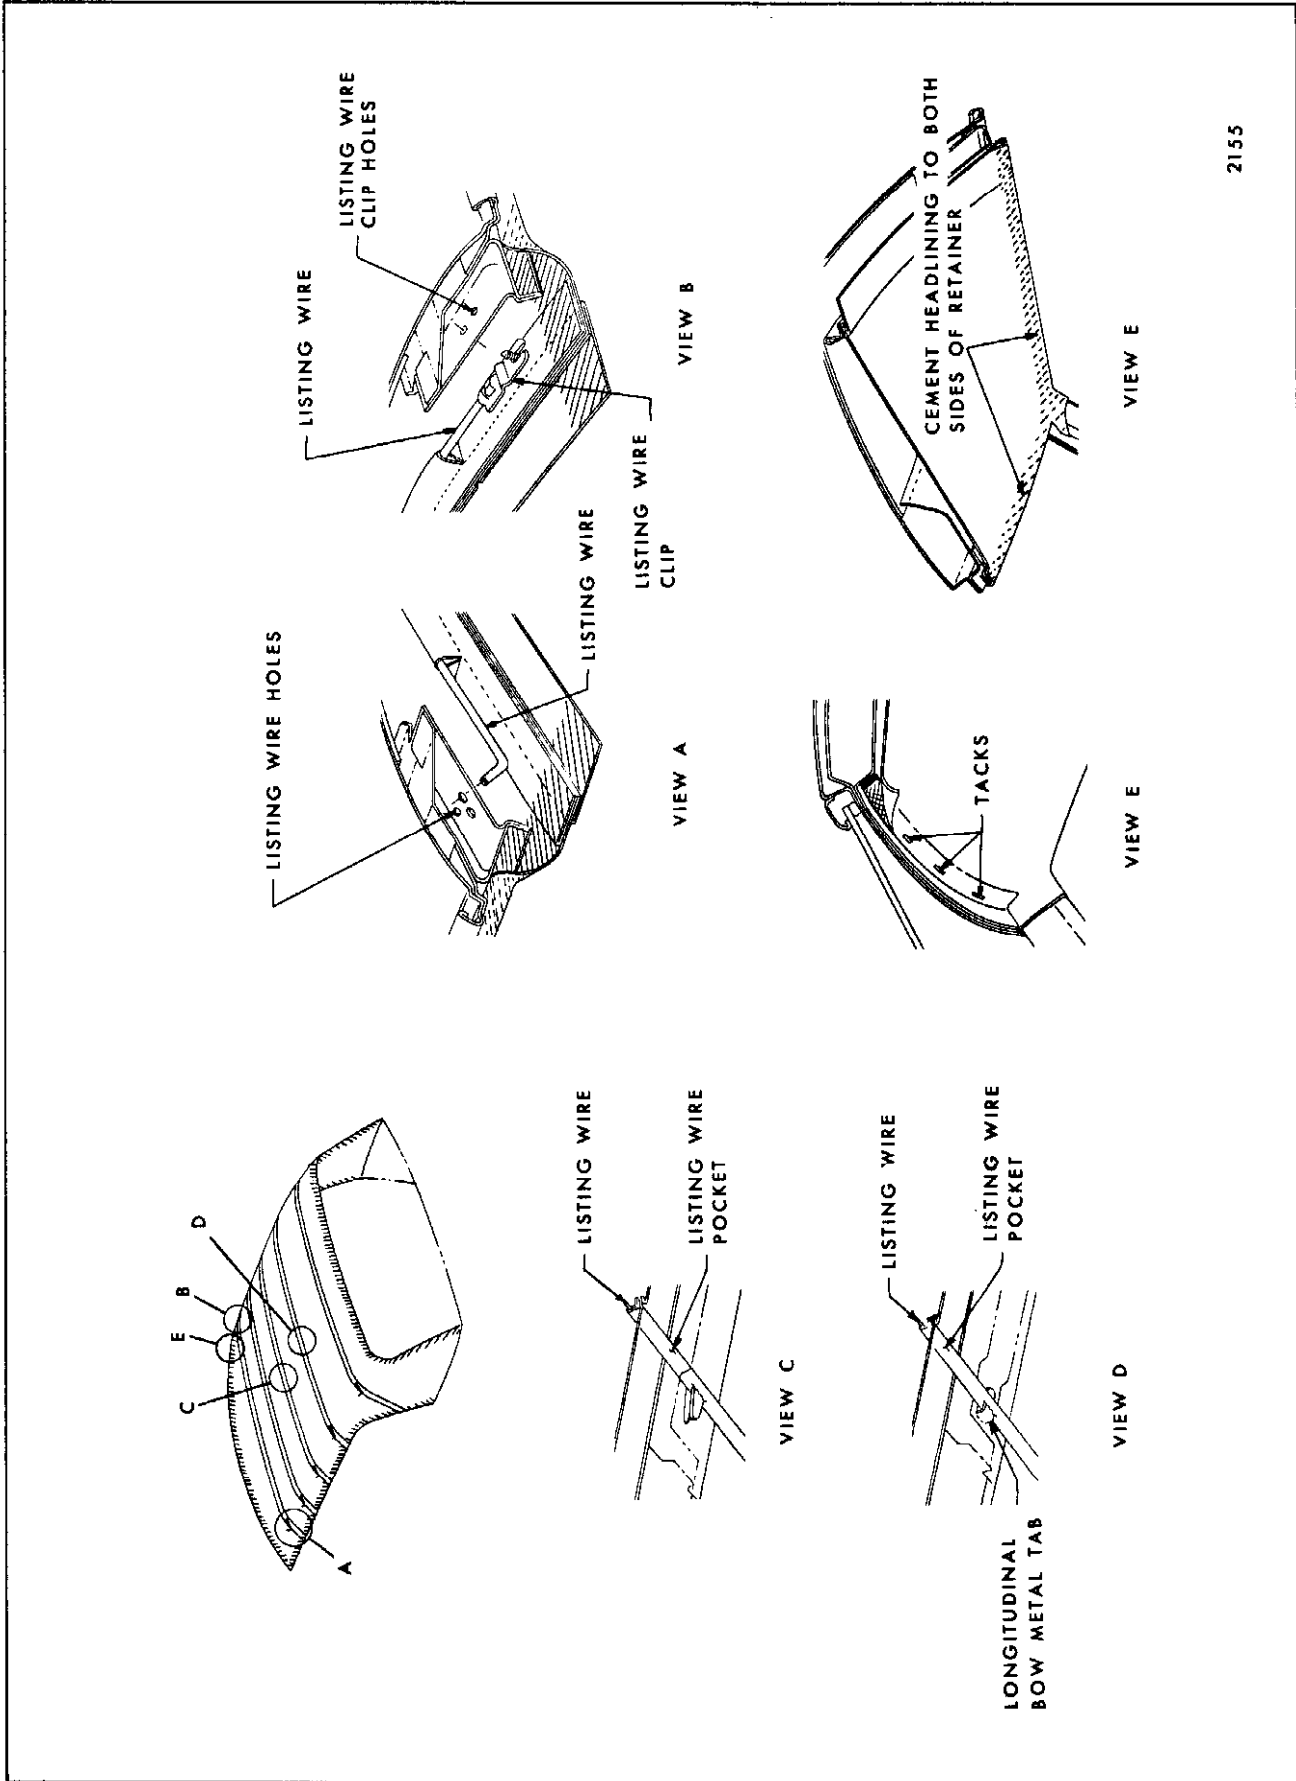
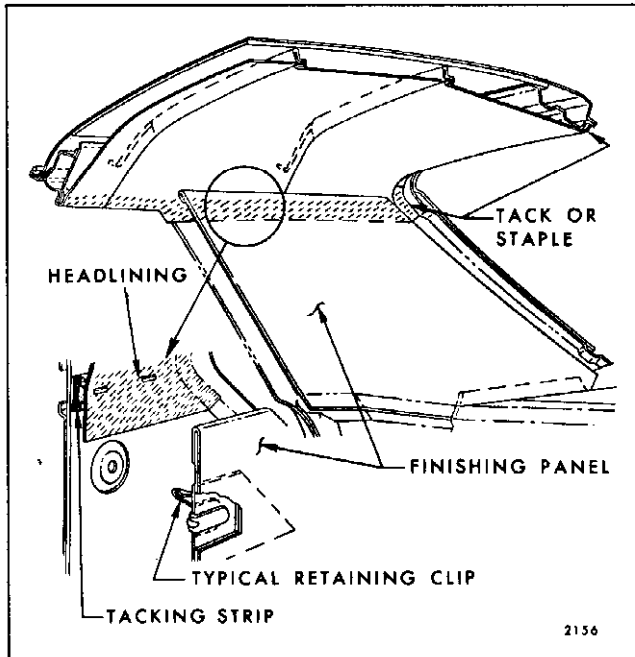
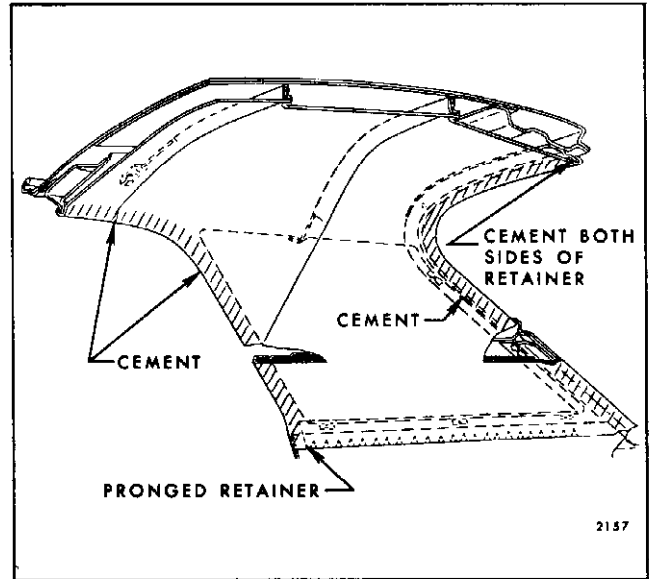

Fig. 11-1—Vinyl and Cloth Headlining Installation
Fig. 11-2—Upper Quarter Trim Installation
Fig. 11-5—Headlining Installation at Roof Extension
Depending upon the body type and style, the listing wires are attached to the side roof rails by either inserting wires directly into holes in side rail or into a clip which is screwed into the side rail. (See View "A and B" in Fig. 11-1.)
On certain styles, the listing wires are further attached to the roof panel by tabs on the front to rear longitudinal roof bow. (See View "D" in Fig. 11-1.)
Where garnish moldings are utilized the headlining is tacked or stapled in addition to being cemented at the windshield and back window or back body opening (View "E", Fig. 11-1 and Fig. 11-2).
utilized, the headlining is tacked or stapled to a trim stick in the roof extension area (See Fig. 11-2). The upper quarter trim is retained by clips (See Fig. 11-2). On "E" Body Styles the upper quarter trim is further retained by cementing the forward edge to the side roof rail. On styles where the headlining covers the entire roof extension area, the headlining is retained along the rear compartment shelf by a pronged retainer (See Fig. 11-5).
6. Starting at front of body, carefully disengage No. 1 and No. 2 listing wires from side roof inner rails and supporting tabs on longitudinal (front to rear) bow on styles so equipped (View "D" in Fig. 11-1). In like manner, working from rear of body, disengage listing wires from side roof rails and supporting tabs on longitudinal bow. Exercise care to keep headlining material clean by gathering or folding headlining with listing wires on outside.
7. At No. 3 listing wire, bend down tab securing listing wire (View "C" in Fig. 11-1) and remove headlining assembly from body.
2. Apply approved trim cement to headlining attaching surface at windshield, side roof rail and back window or back body opening. On styles that utilize pinchweld finishing lace be certain cement is applied to both sides of retainer at windshield and back window or back body opening. (View "E", Fig. 11-1 and Fig. 11-5).
3. Lift headlining assembly into body and install No. 3 listing wire and listing wire pocket over metal tab at roof bow (View "C", Fig. 11-1). Bend up tab to secure listing wire to bow. Make certain headlining is centered in body.
bow. In like manner, working forward, install No. 2 and No. 1 listing wires. (View "D", Fig. 11-1).
NOTE: Listing wires may be adjusted up or down by utilizing appropriate holes in side roof rails. Listing wires should rest tight against roof panel after installation. (Views "A" and "B" in Fig. 11-1).